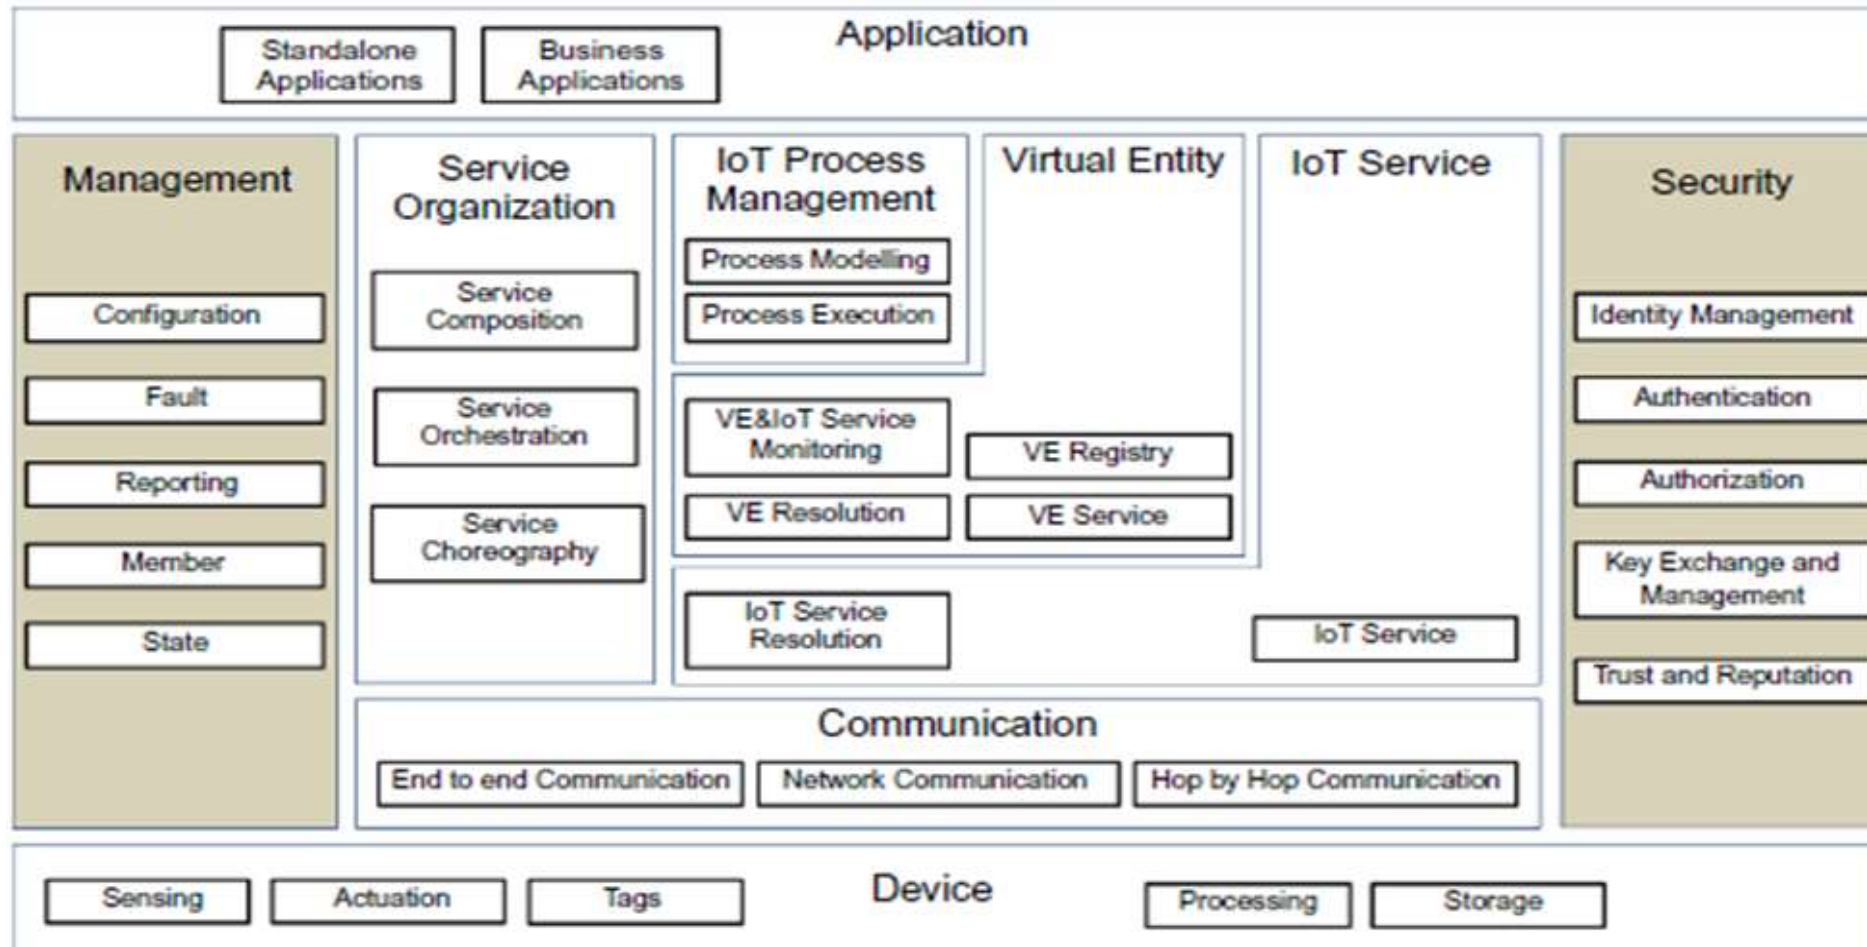

Fig 2.1 :IoT Functional View
- Figure 2.1, and is adapted from IoT-A (Carrez et al. 2013).